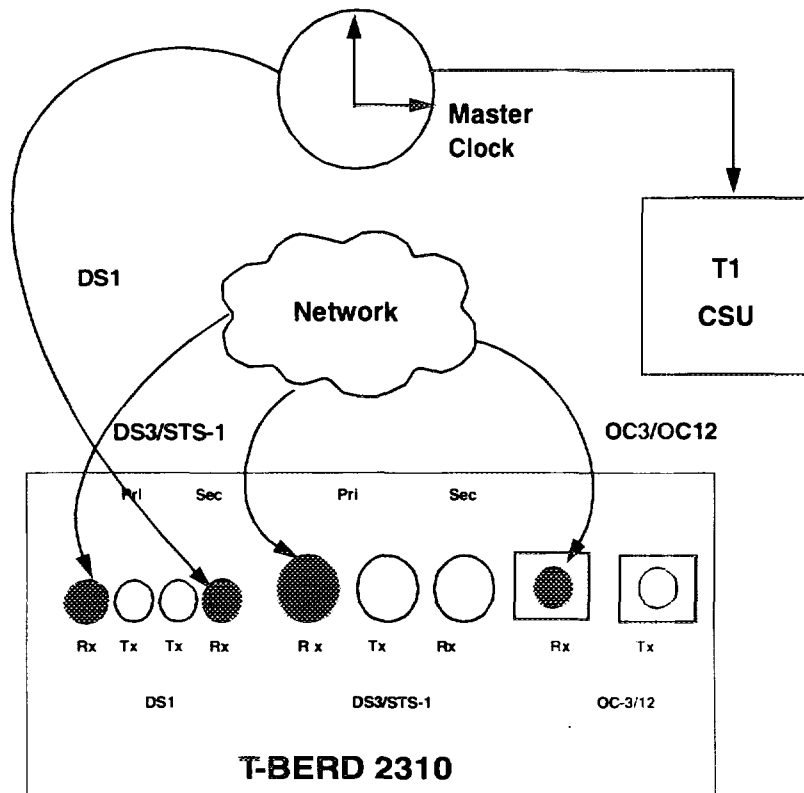

Figure 3-4. Simulation DS1 Timing Slips
1. Connect a cable from the SECONDARY RX/BITS jack to the DS1 BITS Clock or a known good reference signal (see Figure 3-4).
2. Connect a cable from the DSX RX jack to the signal to be tested (see Figure 3-4).
Figure 3-4 is a sample depiction of cable connections from the Master Clock to the inputs on the T-BERD 2310 for DS1 Timing Slips testing.